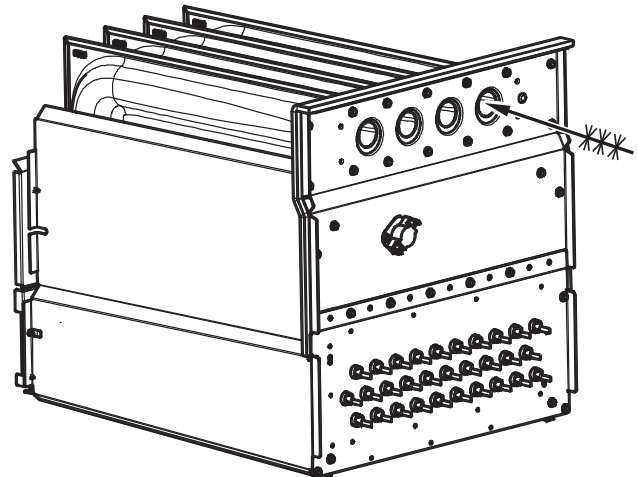

Fig. 66 - Cleaning Heat Exchanger Cell
7. Clean heat exchanger openings with a vacuum and a soft brush. See Fig. 66.